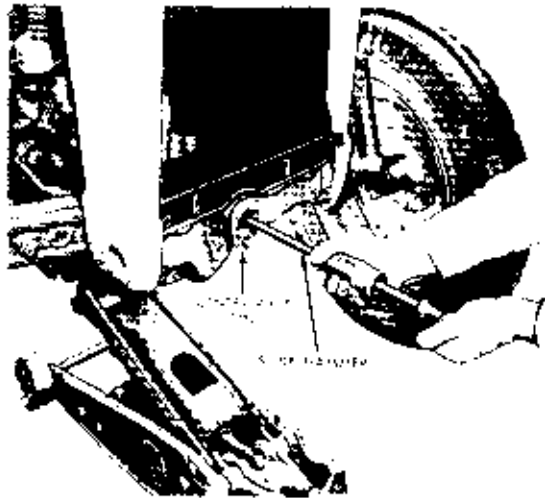

Fig. FO4 — Removing original type non-threaded front axle pivot pin using a slide hammer arrangement.
2. To remove the axle center member (12—Fig. FO1), support front of tractor, remove the grille and unbolt radius rods and axle extensions from axle center member. Swing the axle extension and wheel assemblies away from tractor. On models with original type pivot pin (15), remove the cap screw retaining the axle pivot pin to the front support and using a slide hammer as shown in Fig. FO4, re-